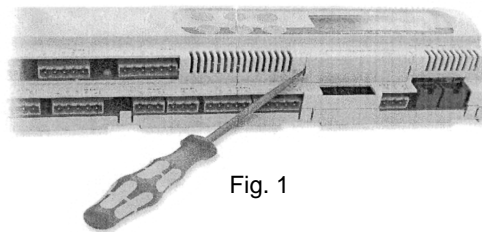

Fig. 1
- Switch off the pCO² and remove the "expansion memory" cover with a screwdriver (see "Copy from pCO² to the Software Key" on page 3–15/Fig. 1).
- Switch off the pCO² and remove the "expansion memory" cover with a screwdriver (see Fig. 1).